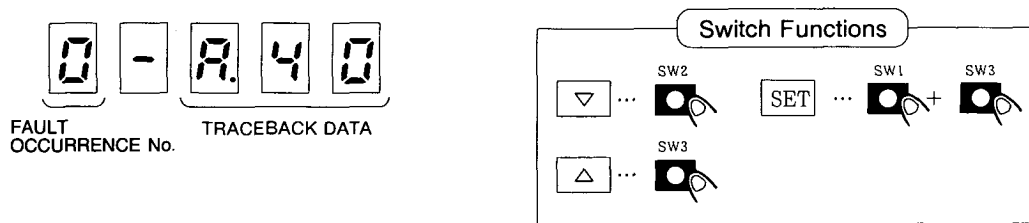

Fig. 8.17 Switch Functions in Fault Traceback Mode
- For the relationship between traceback data and fault descriptions, refer to Table 8.9. The switch functions are indicated in Fig. 8.17.